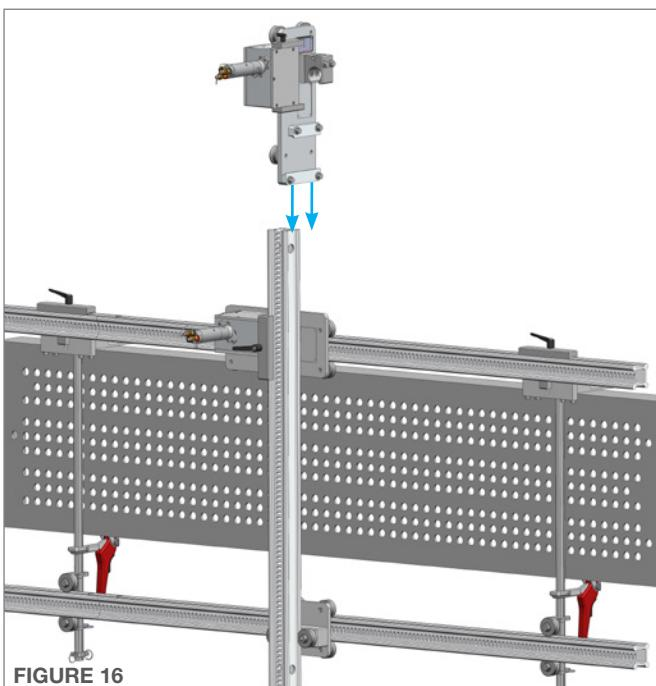

FIGURE 16
15. Loosen the Quick Adjust Handle and pull the gearbox away from the carriage plate. This will allow the **Vertical Drive Carriage** to roll onto the rail without pneumatic power. (**Figure 16**)